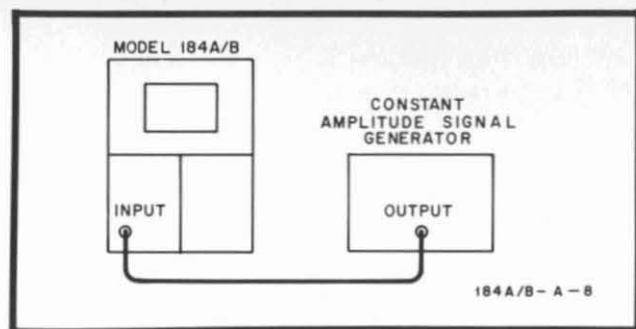

Figure 5-9. Fast Vertical Gain Adjustment
b. Connect constant amplitude signal generator 10-MHz sine wave output to input of vertical amplifier (figure 5-9).